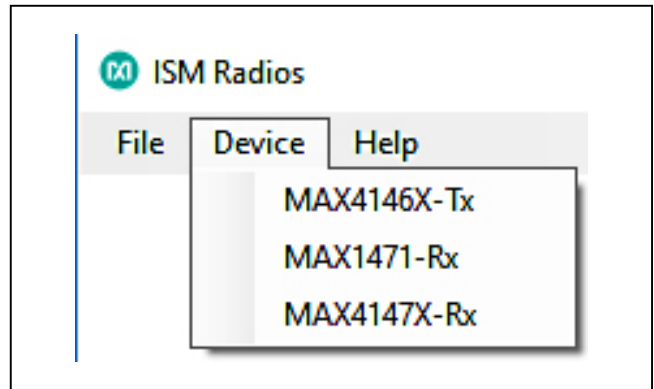
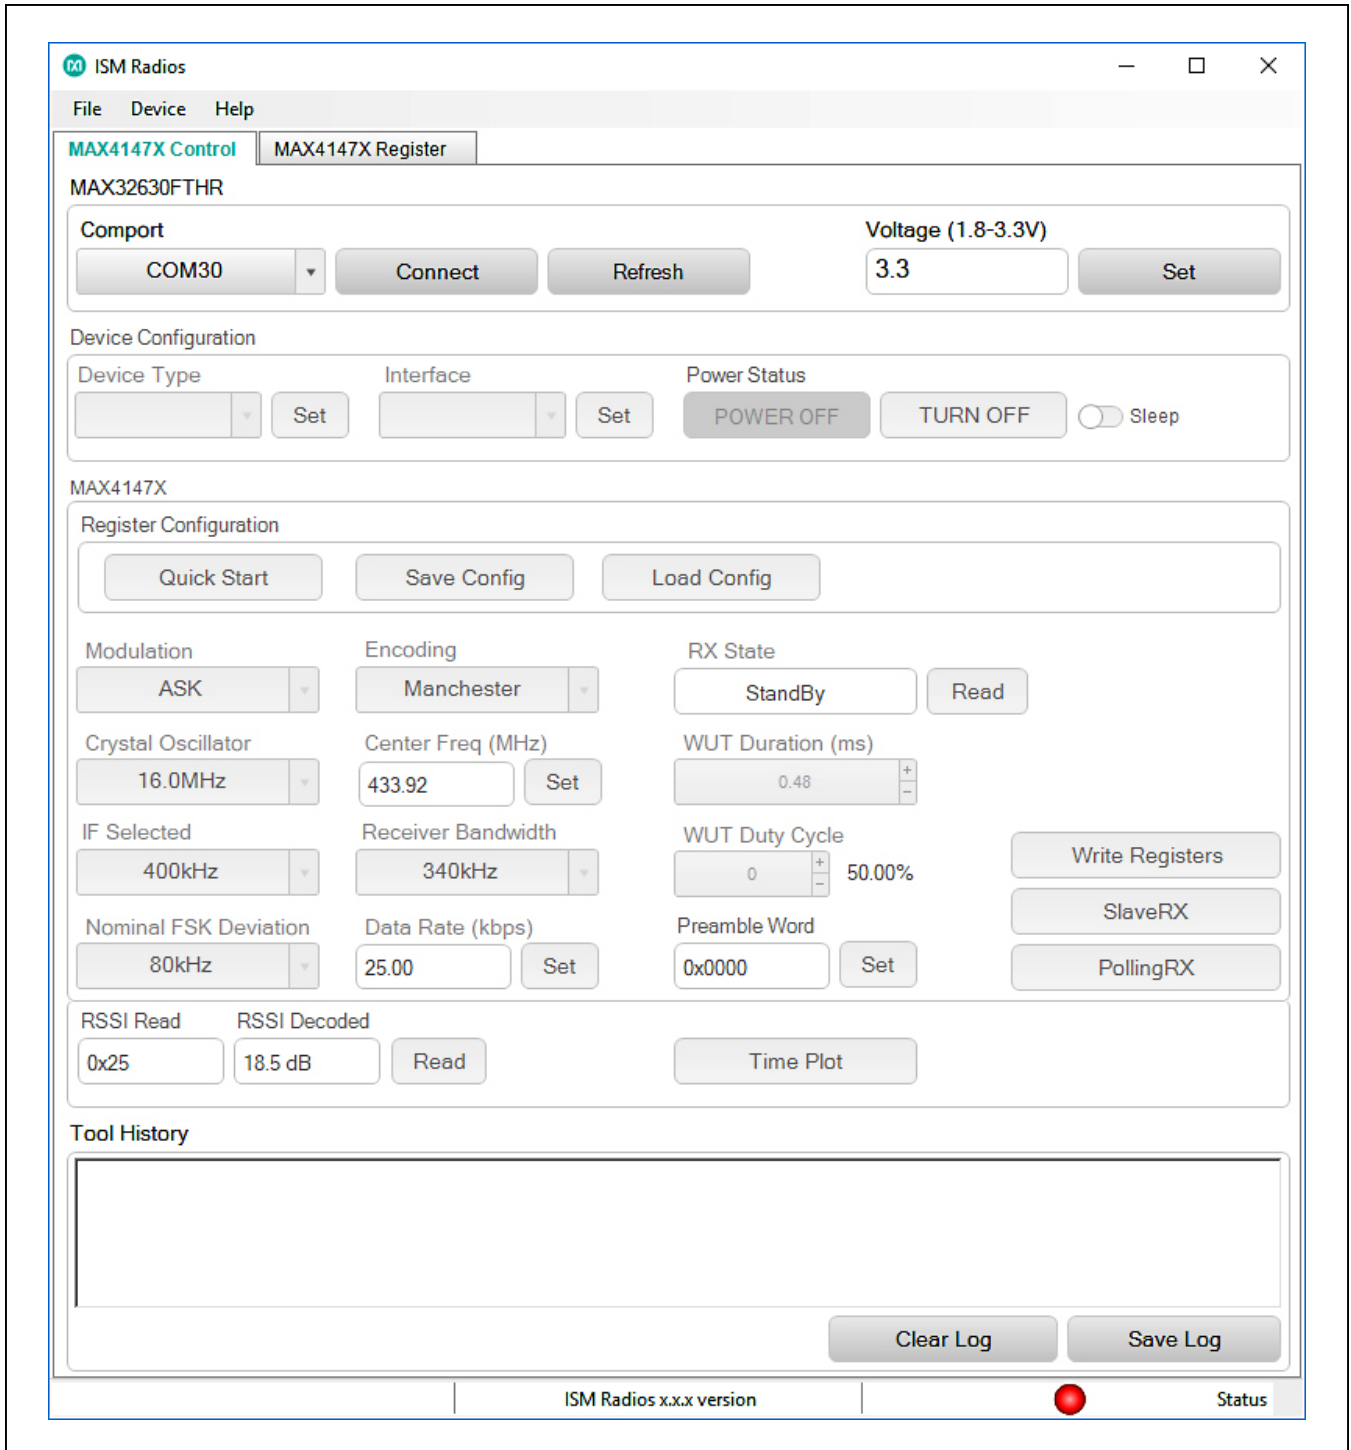

Figure 5. MAX4147XEVKIT GUI Device Selection
Figure 6. MAX4147XEVKIT GUI Software Startup
- 7) Under the Device menu option, select MAX4147X-Rx (Figure 5). The GUI tabs will populate in the window as shown in Figure 6.